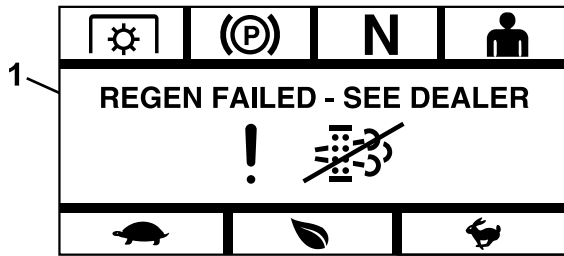

Figure 19
- **Failed**—if the engine ECU determines that a recovery regeneration cannot be completed, the module displays the Regen Failed—See Dealer screen (Figure 19). Take the machine to an Authorized Service Dealer.